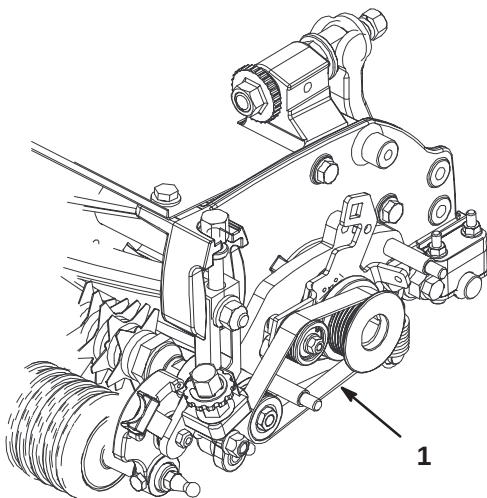

Figure 2
2. Remove belt from driver pulley, idler pulley and driven pulley (Fig. 2).